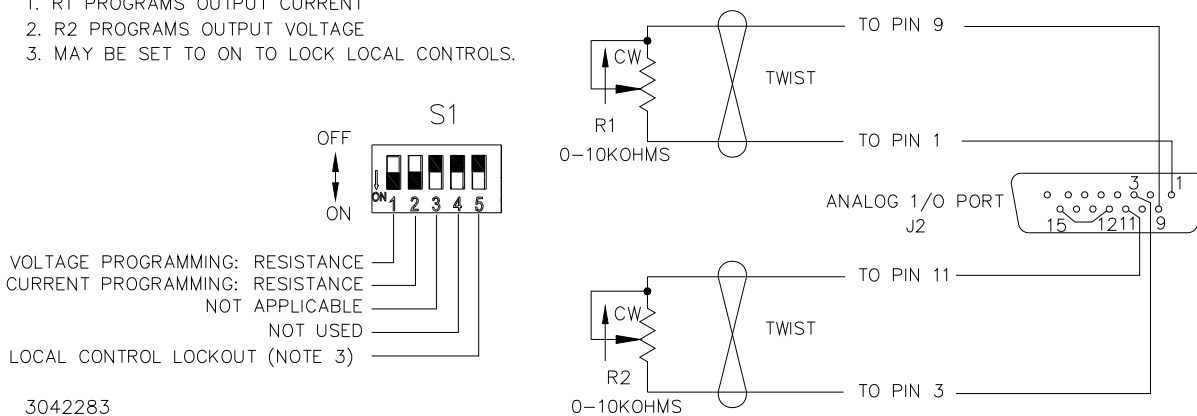

FIGURE 3-14. ANALOG PROGRAMMING OF OUTPUT VOLTAGE OR CURRENT USING RESISTANCE
Figure 3-14 is a simplified diagrams of the KLP showing the switch configuration and external connections required for analog programming using an external resistance.
3. Configure Analog I/O Port J2 (Figure 2-2) by referring to Table 2-7 and Figure 3-14 (grounding J1 pin 12 enables analog programming).
With the power supply configured as shown in Figure 3-14 and assuming the load causes the power supply to operate in voltage mode, varying external resistor R2 from 0 to 10K causes the output voltage of the power supply to vary linearly from 0 to full scale, while R1 can be used to adjust the current limit. When the power supply operates in current mode, R2 will adjust the voltage limit and R1 will adjust output current.